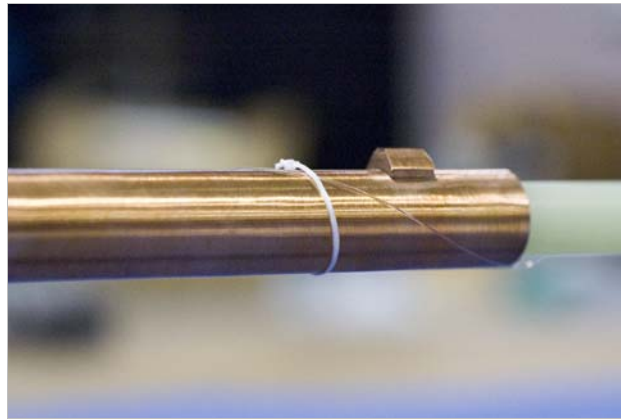

FIGURE 5-21 Tie the optical fiber to the arm
13. Using unwaxed dental floss, tie the fiber to the arm to keep it from unraveling during use (FIGURE 5-21).